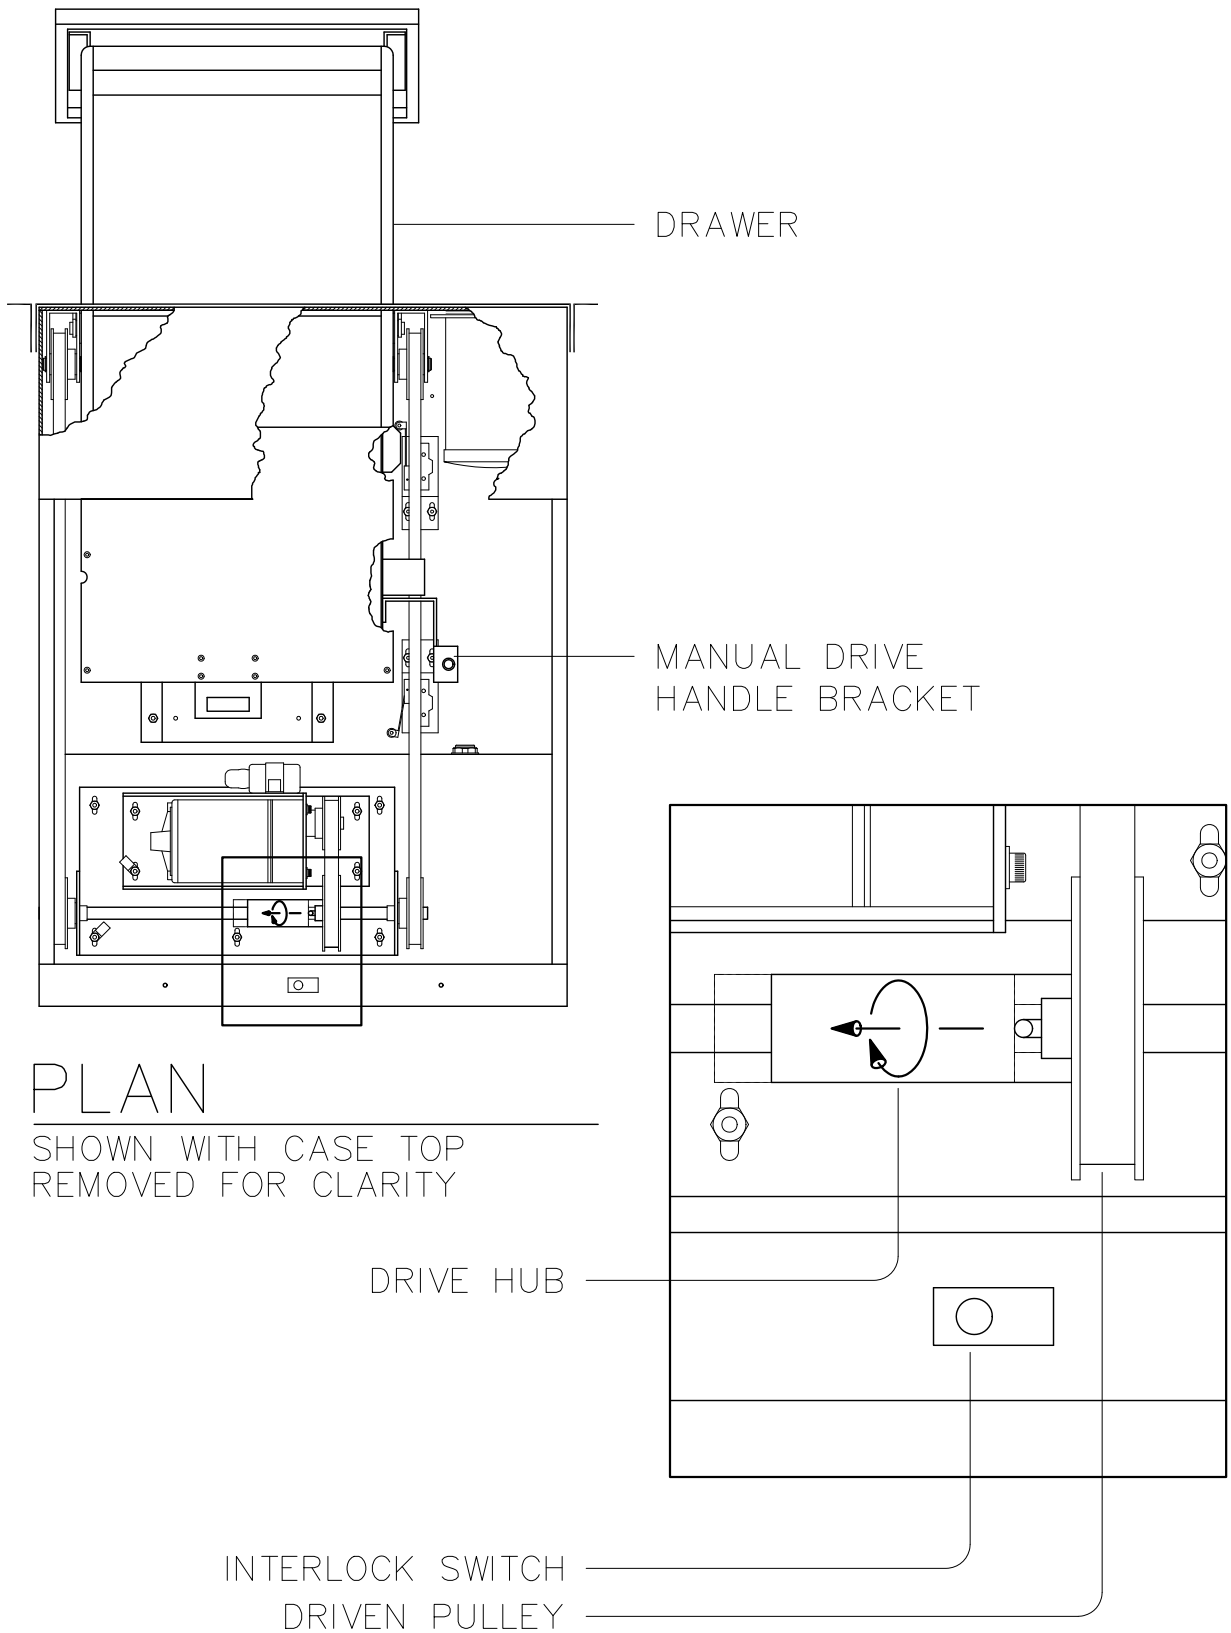

FIG. 3.1 MANUAL OPERATION
Hub is used to release driven pulley from transmission in order that drawer can be operated manually. Refer to Figure 3.1.
#### 3.4 Manual Operation Sequence (Refer to Figure 3.1)
4. With drawer forward, disengage drive hub from driven pulley. To disengage, move drive hub to the left and rotate approximately  $\frac{1}{4}$  turn. Refer to Figure 3.1.